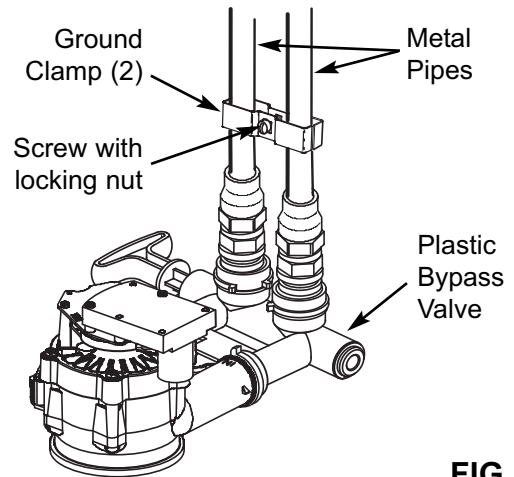

FIG. 10
2. Securely tighten connection in center of metal ground clamp (See Figure 10).